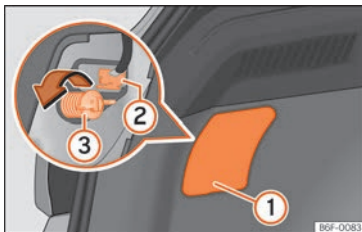
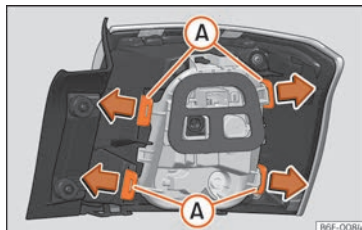

Fig. 172 Boot: access to the bolt securing the tail light unit.
Fig. 173 Retaining tabs on reverse side of tail light.
- Remove the lid, levering the flat side of a screwdriver into the recess >>> **Fig. 172 ①**.
- Remove the bulb connector **②**.
- Unscrew the bolt securing the light **③** by hand or using a screwdriver.
- Remove the bulb holder unlocking the retaining tabs >>> **Fig. 173 (A)**.